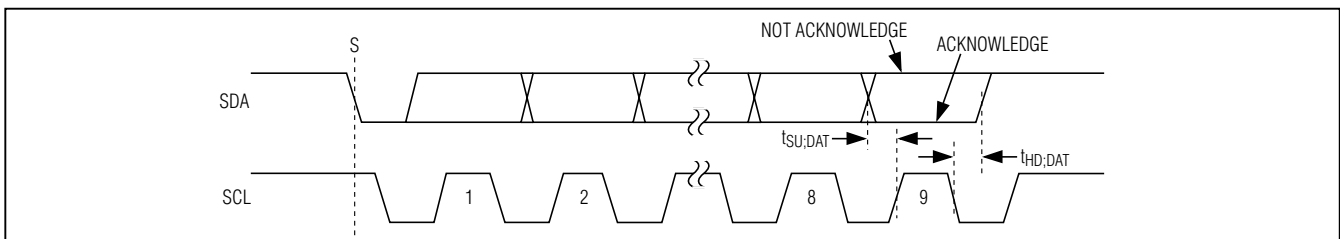

Figure 9. Acknowledge Bits
Both the master and the MAX8660/MAX8661 (slave) generate acknowledge bits when receiving data. The acknowledge bit is the last bit of each 9-bit data packet. To generate an acknowledge (A), the receiving device must pull SDA low before the rising edge of the acknowledge-related clock pulse (ninth pulse) and keep it low during the high period of the clock pulse (Figure 9). To generate a not acknowledge ( $\bar{A}$ ), the receiving device allows SDA to be pulled high before the rising edge of the acknowledge-related clock pulse and leaves it high during the high period of the clock pulse.